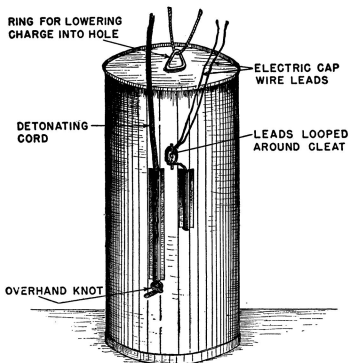

FIGURE 94.—Ammonium nitrate cratering charge with electric-cap and detonating-cord primers.
d. *Ammonium nitrate cratering explosive* (fig. 94).—Ammonium nitrate cratering explosive is issued in 40-pound charges, each packed in a cylindrical container of tin or other moistureproof material of equal strength. The metal container is about $8\frac{1}{4}$ inches in diameter and 17 inches in height; another type of container, made of waterproofed cardboard, is 7 inches in diameter and about 21 inches high. Two tubes are secured to the outside wall of each container.
cap (fig. 94). To make a primer using detonating cord, pass the detonating cord all the way through the tunnel (from top to bottom) on the side of the container and tie an over-hand knot in the lower end to prevent the cord from pulling out of the tunnel. Both means of detonating should be used simultaneously. Do not use detonating cord or electric-cap leads to lower the ammonium nitrate cratering charges into holes; use a cord attached to the ring in the top of the charge.